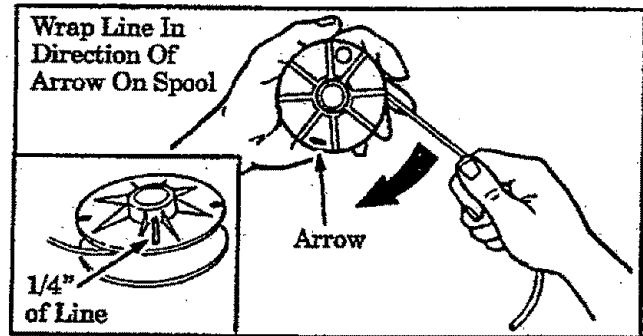

Figure 11
- Hold spool as shown in Figure 11.
- Insert 1/4 to 3/8 inch of line through the tapered slot in the spool. Figure 11 (inset).